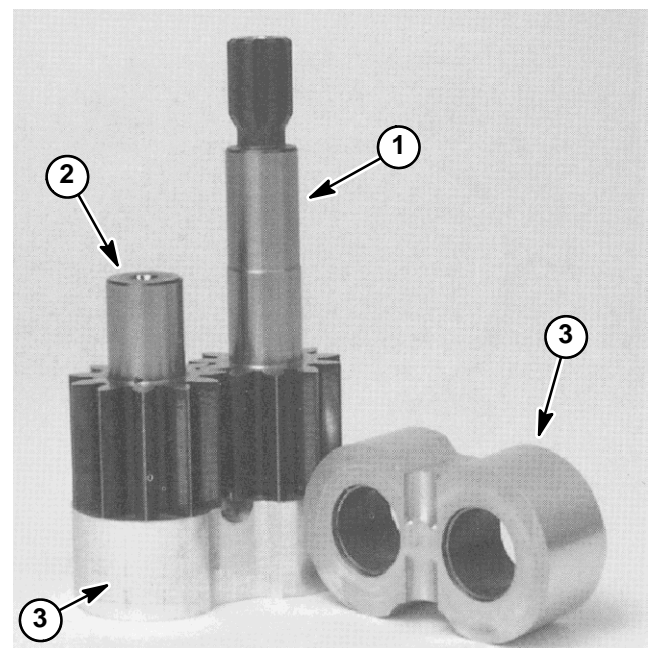

Figure 84
3. Inspect drive gear, idler gear and bearing blocks (Fig. 84) for the following: